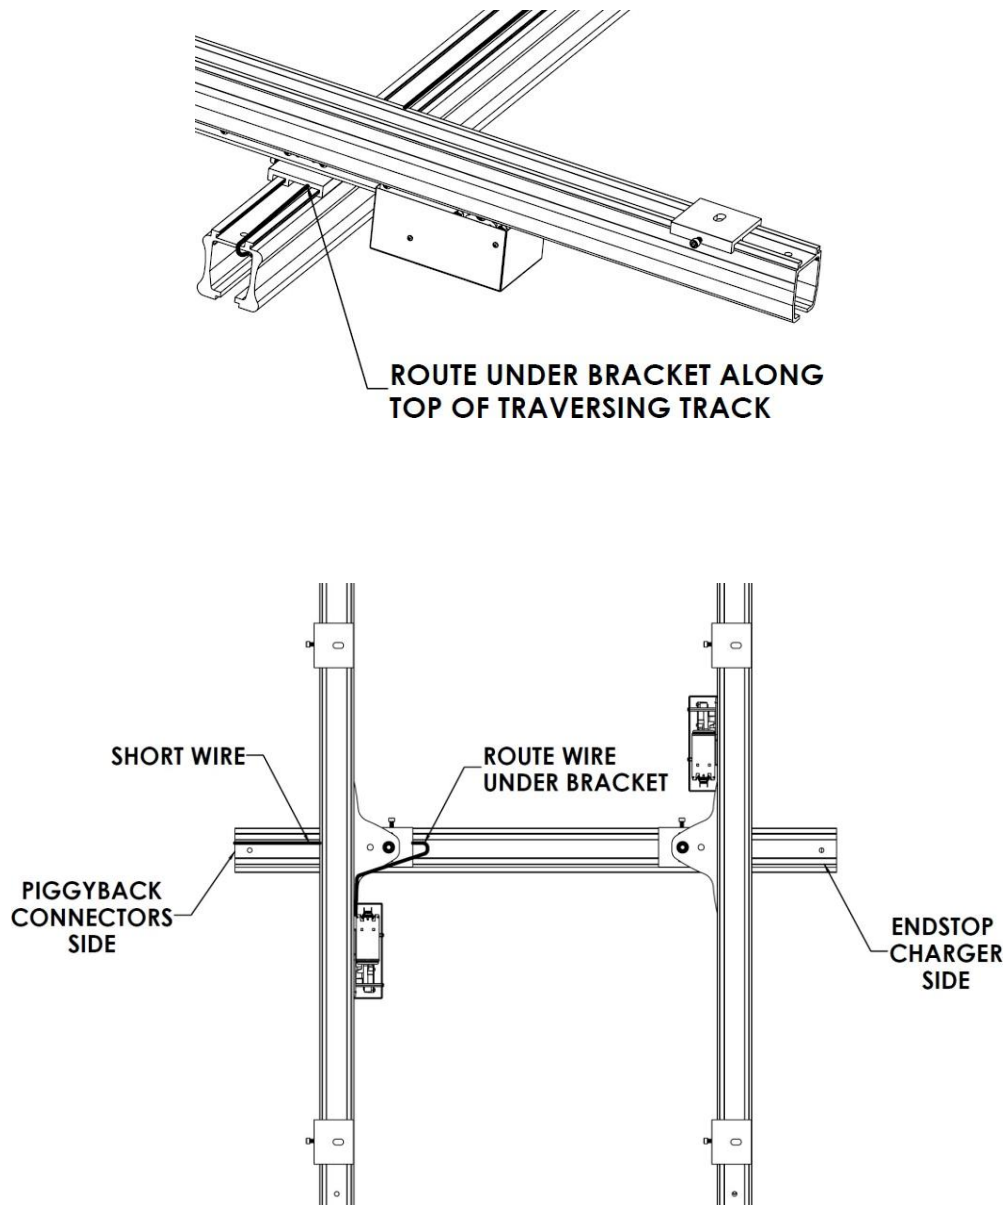

Figure 61: **Short Wire Placement**
8. On the traversing (X/Y) track, route the short wire across the top of the traversing track, beneath the gantry bracket (Figure 61).